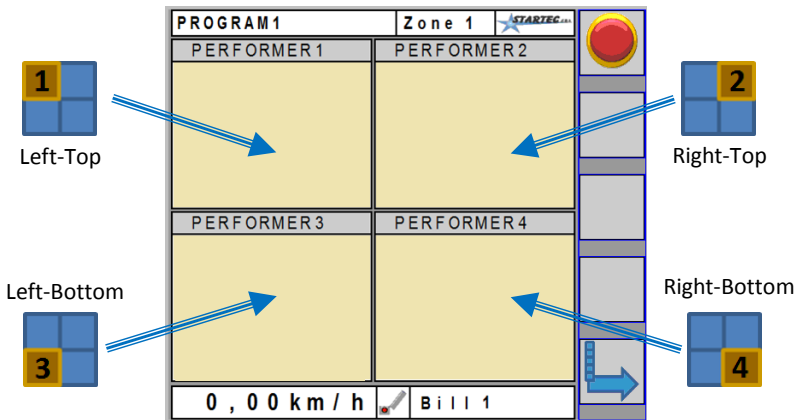

Figure 5: Performer working data allocation
- FIGURE 5: PERFORMER WORKING DATA ALLOCATION13